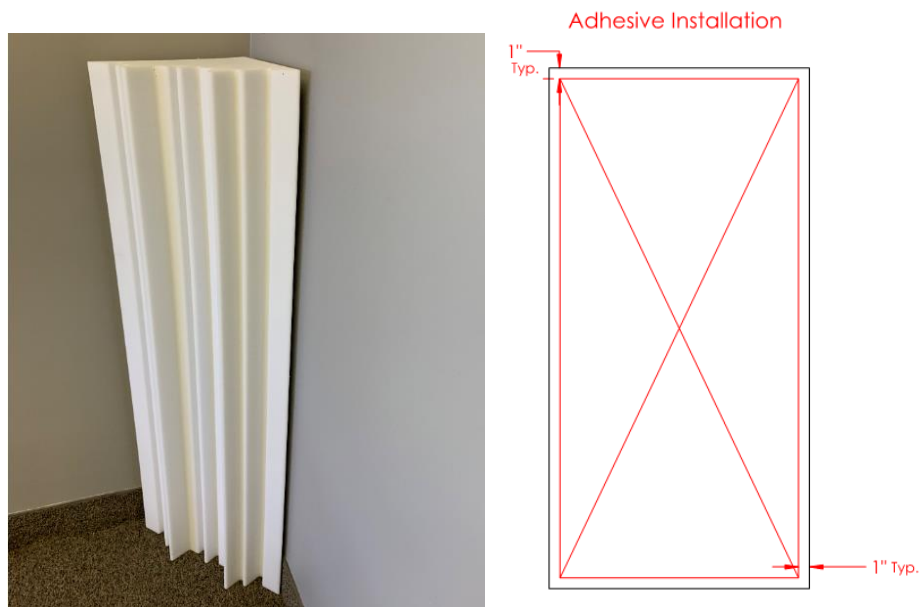

Figure 1: Construction Adhesive Application
- 6) To maximize bonding process, use pressure to apply a ¼" bead of adhesive to each of the two (2) sides of the trihedral corner trap, around the full perimeter of the trap, applied to within 1" of trap edges. Use the diagram shown in Figure 1 below as a guide.
- 7) Using pressure, apply a ¼" bead of adhesive from opposite corners through the center of the trap, forming an "X". Use the diagram shown in Figure 1 below as a guide.
- 2) Cut end of adhesive tube to produce a ¼" bead. Apply a ¼" bead of adhesive from opposite corners through the center of the trap, forming an "X". Use the diagram shown in Figure 1 (above) as a guide.
- 3) Fix two (2) L brackets on the wall at the correct height to support the bottom edge of the bass trap, located on adjacent walls approximately 10 inches out from the corner.
- 5) Push bass trap between the brackets. Fix four (4) pan-head wood screws into the plywood, MDF, or similar, edging of the trap.